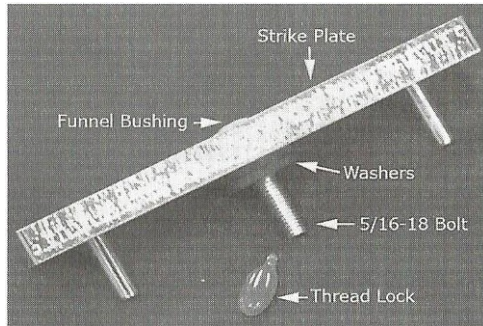

Figure 14. Strike Plate Assembly
**NOTE:** Figure 14, "Strike Plate Assembly," provides illustration for the Steps 4- 6.